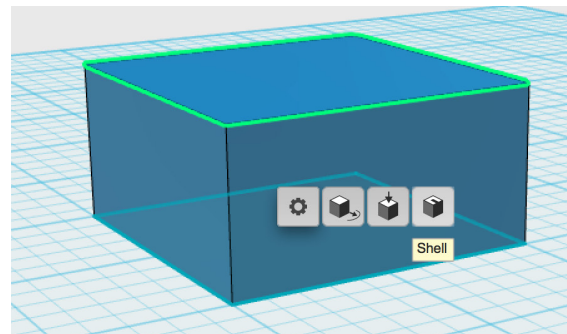

Figure 4-23 Click the element
2. To select a specific face, edge, or corner, click again on the element you wish to select (Figure 4-23).